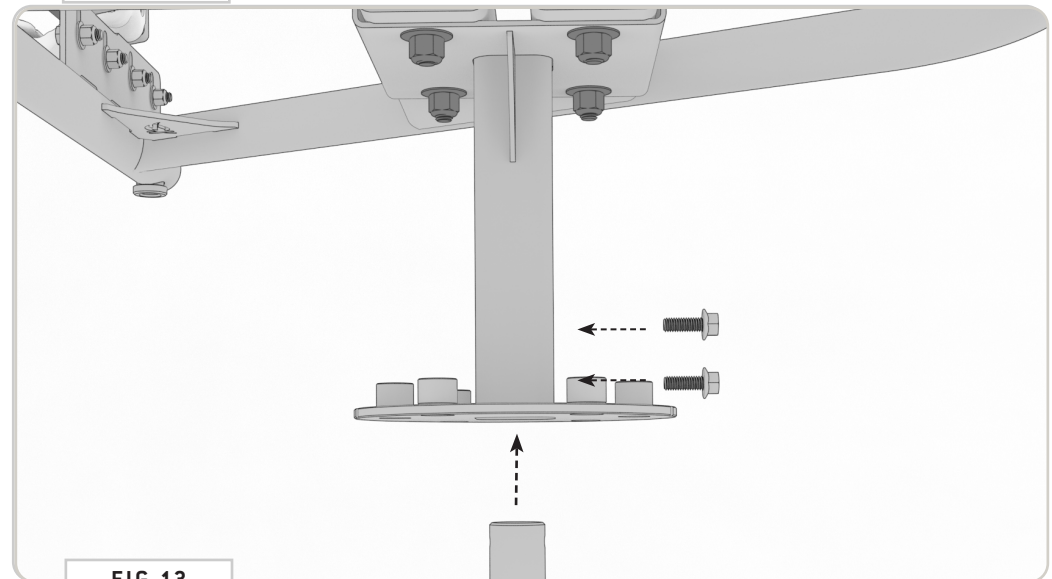

FIG 13
**4.2 Lock Rod (Optional):** If you would like to run a lock to your wheel fasten the **Lock Rod** to the **Wheel Bracket** using **(2) 3/8-16 X 1 Hex Head Screws with Flat Washers**, **Loctite** and a **9/16" Wrench or Socket**. The depth is adjustable to suit your specific wheel setup (FIG 13).